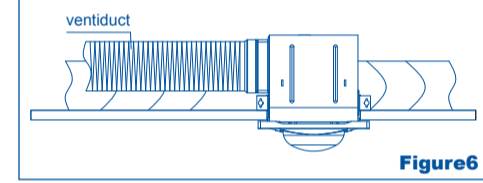

Figure 6
3. Fit the in-house end of the duct to the fan outlet of the housing (Figure 6).